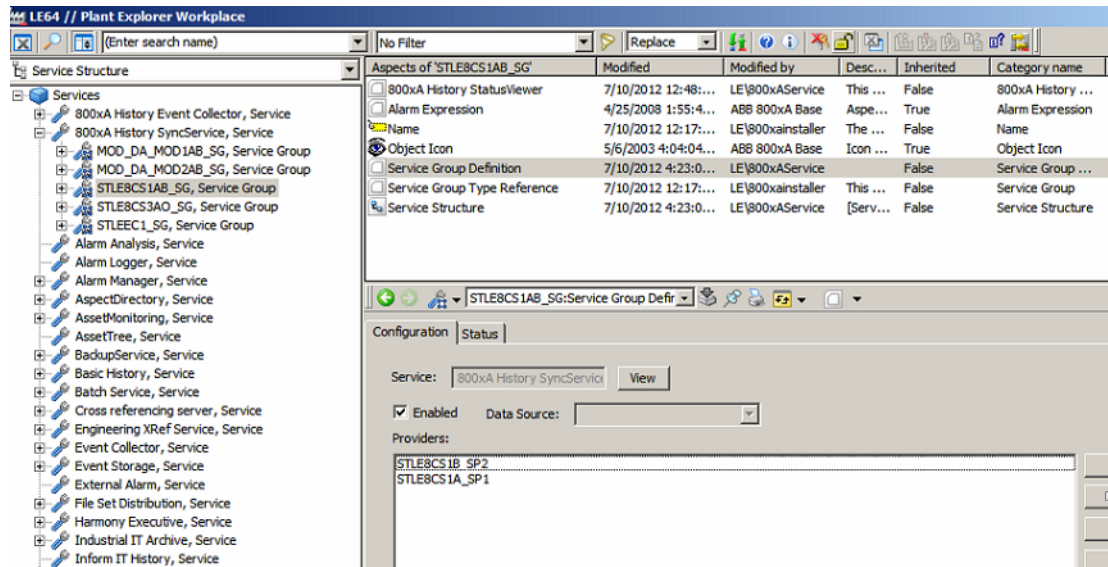

Figure 36. Service Group Definition
- By default, the Service Group Definition is selected in the right pane as shown in Figure 36.
4. By default, the Service Group Definition is selected in the right pane as shown in Figure 36